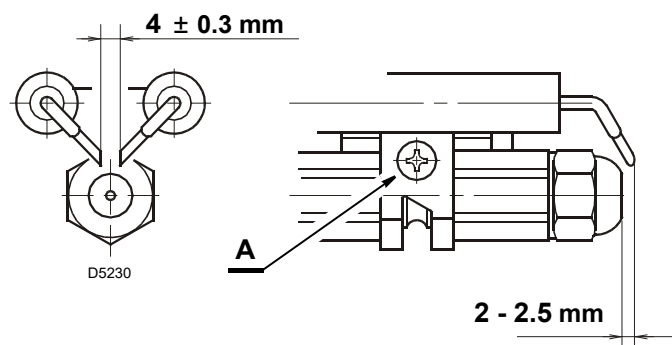
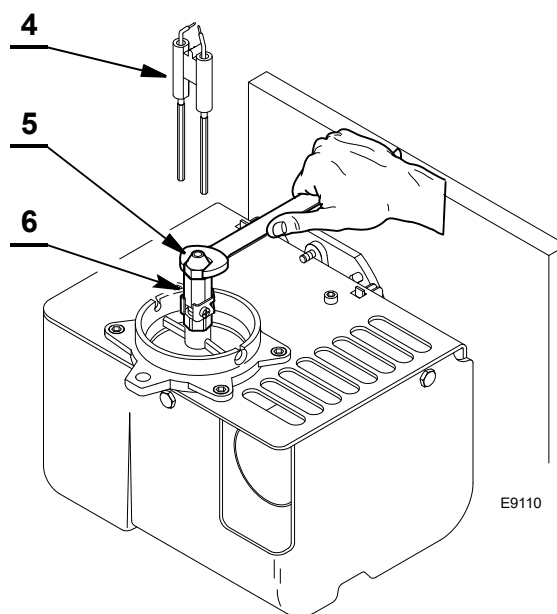

Fig. 17
Fig. 21
Before removing or assembling the nozzle, loosen the screw (A, Fig. 17) and move the electrodes ahead.
- Remove the electrodes assembly 4)(Fig. 21) from the nozzle holder 6) after loosening its fixing screw (A), (Fig. 17).
- Replace the nozzle 5)(Fig. 21) and screw the new one on properly, holding it as illustrated in figure.